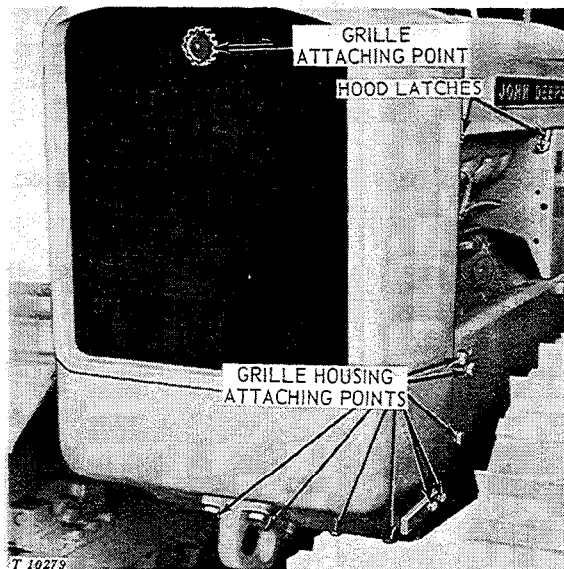
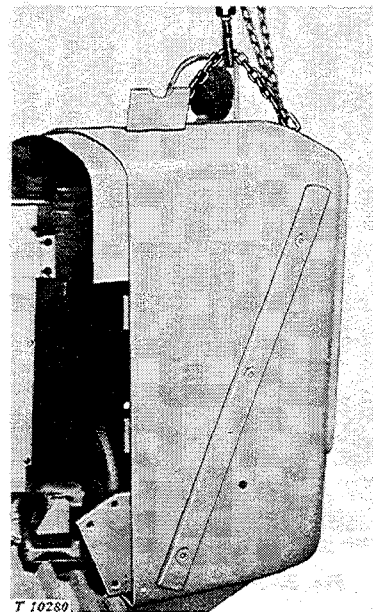

Fig. 20-5-1—Hood and Grille Housing Attaching Points
Fig. 20-5-2—Removing Grille Housing
2. Remove grille by unscrewing knob (Fig. 20-5-1). Attach chain hoist to grille housing (Fig. 20-5-2).